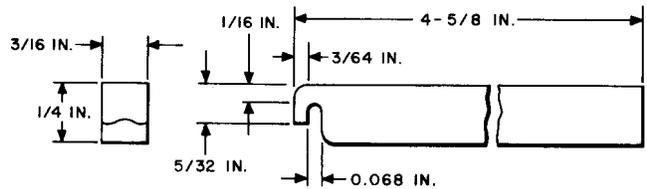

Fig. 5—532B Adjuster Tool
2.05 **532B:** The 532B tool (Fig. 5) is an adjuster used on 300-, 304-, 314-, 324-, and similar-type switches and 245-, 254-, 263-, and 264-type relays. The 532B tool replaces the 532A tool.